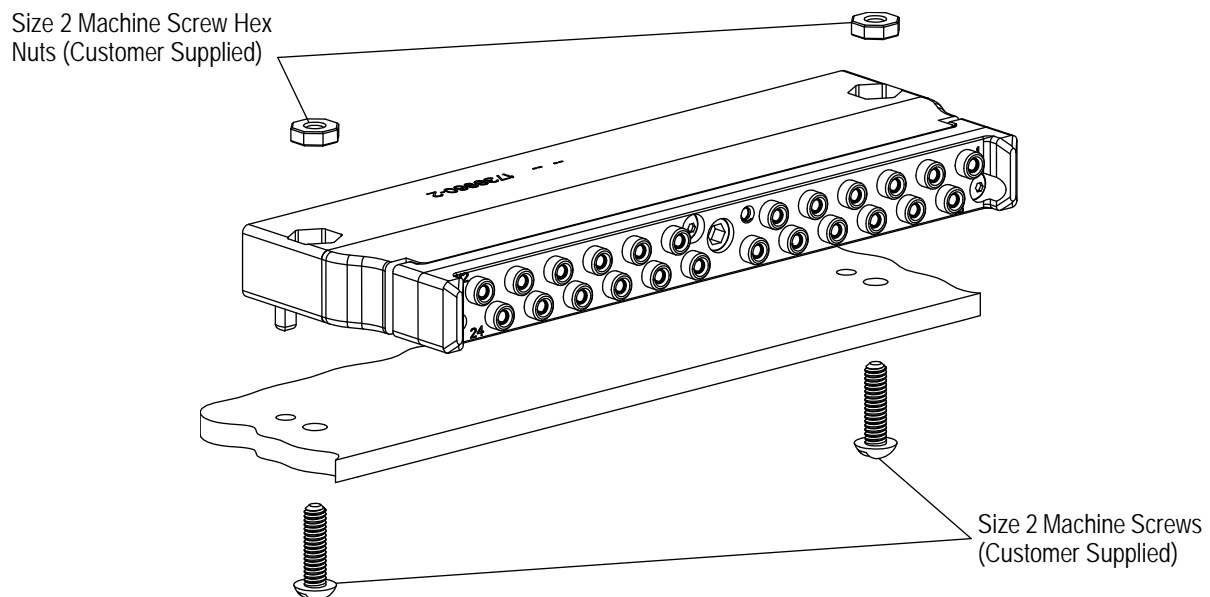

Figure 10
A. Module Connector (Figure 10)